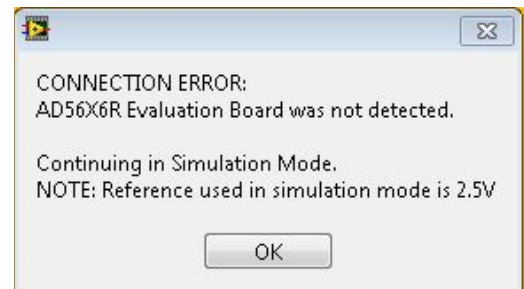
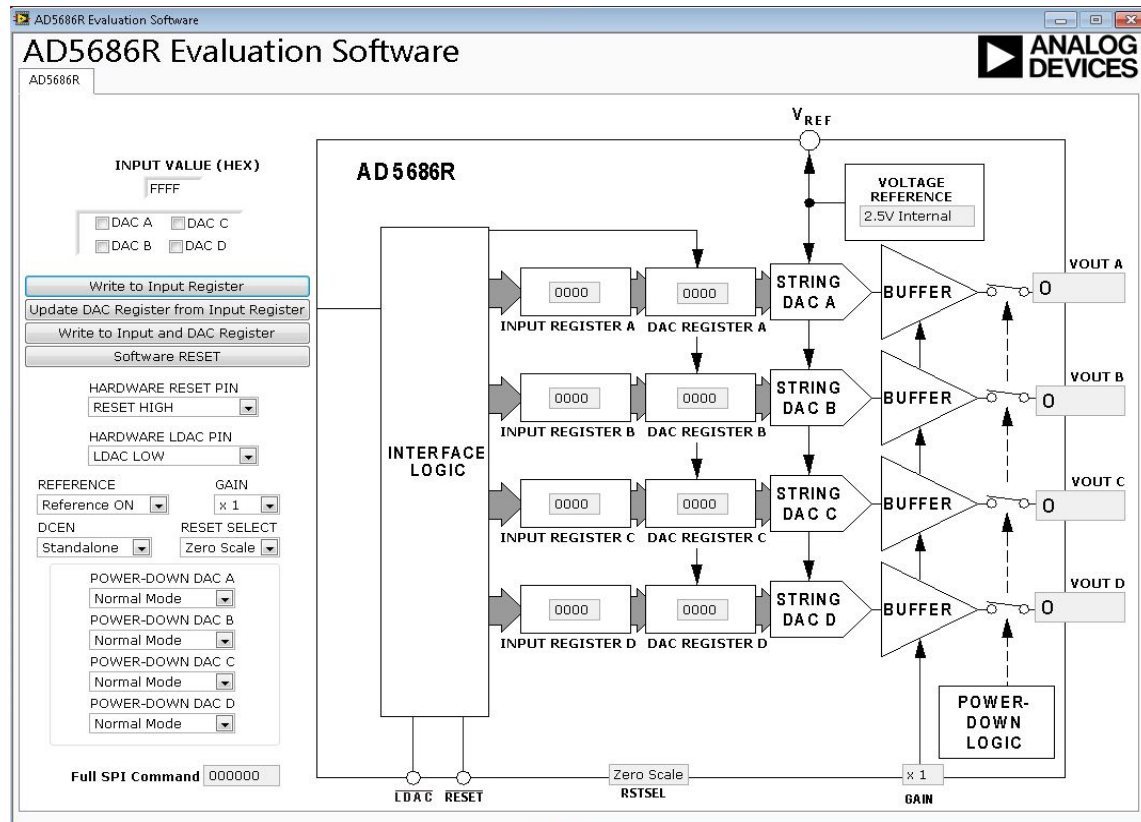

Figure 4. Simulation Mode
Figure 5. AD5686R Evaluation Software Main Window
4. Alternatively, you can use the software without an evaluation board. The software runs in simulation mode, displaying expected outputs based on the input data (see Figure 4). Note that a 2.5 V reference voltage is used in simulation mode. The main window of the AD5686R evaluation software then opens, as shown in Figure 5.